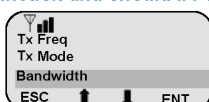

Figure 11
11. Highlight "Bandwidth" and press "ENT", highlight "12.5 KHz" for Narrowband and press "ENT". (See Figure 11)